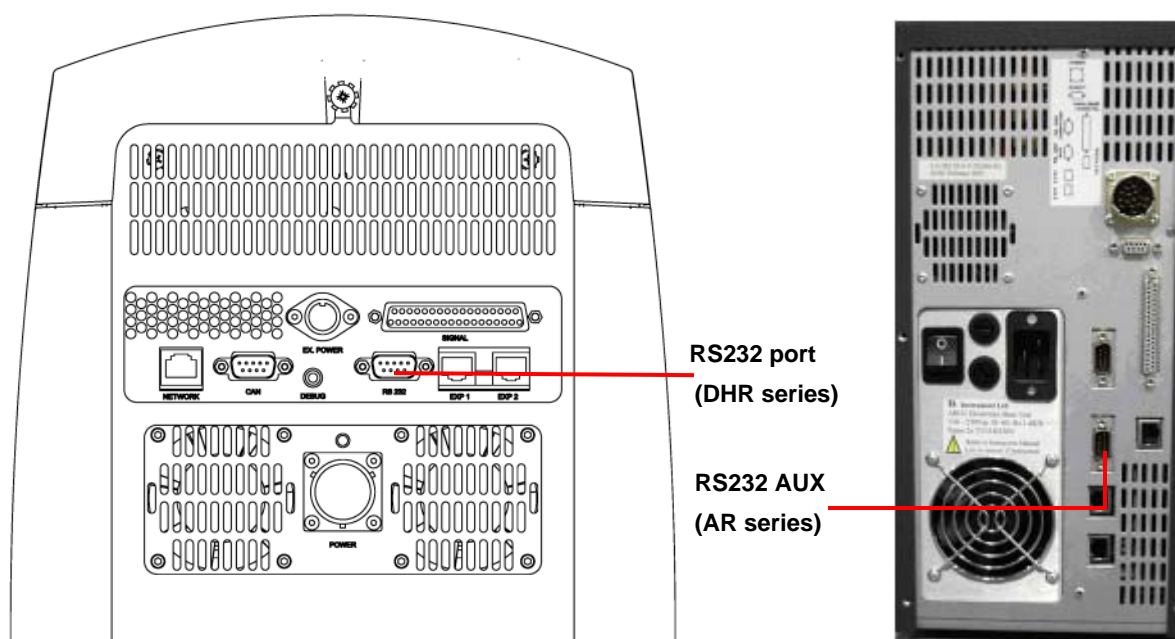
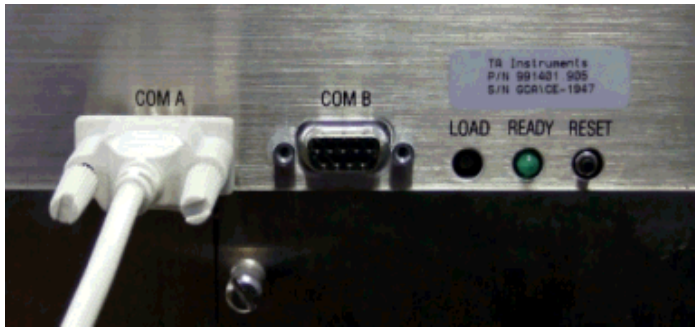

Figure 17 Electronics box back panel (DHR series, left; AR series, right).
Figure 18 GCA ports.
- 6 Connect the interface cable supplied with the EHP cooling kit between COM A on the GCA and RS232 AUX (for AR series) or RS232 (for DHR series) on the rheometer electronics box. See Figure 17 and Figure 18 below.